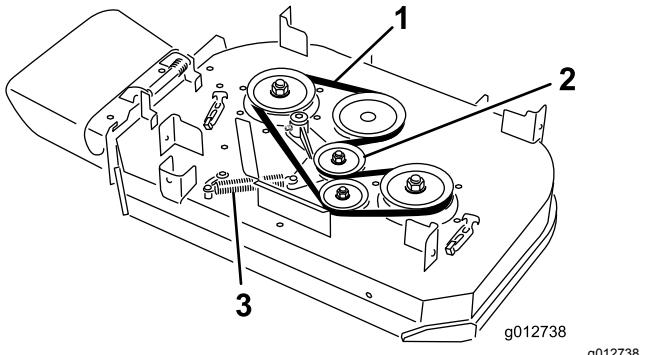

Figure 62
4. Remove the spring from the anchor post on the idler-pulley arm (Figure 62).
5. Remove the worn mower belt (Figure 62).
6. Install the new mower belt around the clutch pulley, the deck pulleys, and the idler pulley (Figure 62).
7. Install the spring onto the anchor post on the idler-pulley arm (Figure 62).
5. Remove the right mower-deck belt (Figure 62).
- A. Remove the spring from the anchor post on the idler-pulley arm (Figure 62).
- B. Remove the worn mower belt (Figure 62).
- C. Install a new mower belt around the deck pulleys, the clutch pulley, and the idler pulley (Figure 62).
7. Install the previously removed or a new mower belt around the deck pulleys and idler pulley (Figure 62).
8. Install the spring onto the anchor post on the idler-pulley arm (Figure 62).